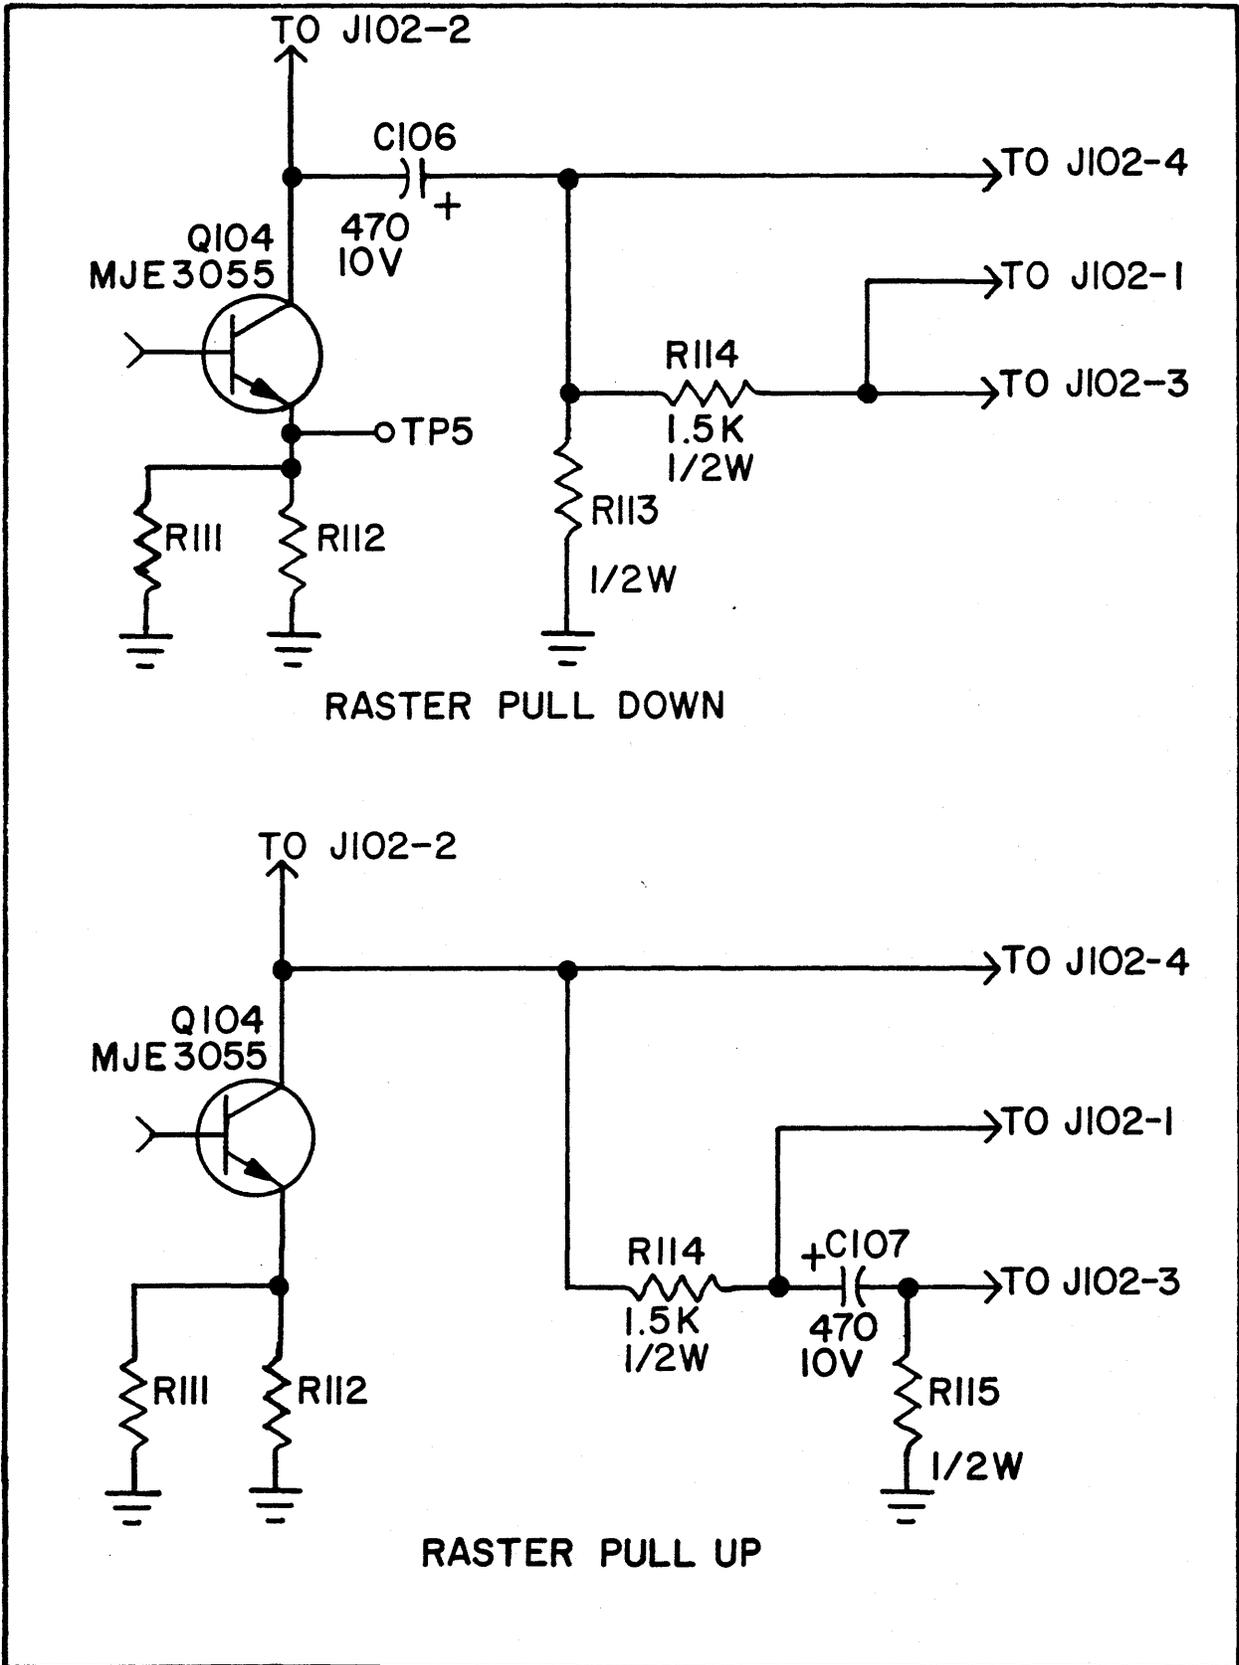

Figure 5-1 Schematic for Raster Shifting
1. Raster pull down (Refer to figure 5-1)
2. Raster pull up (Refer to figure 5-1)